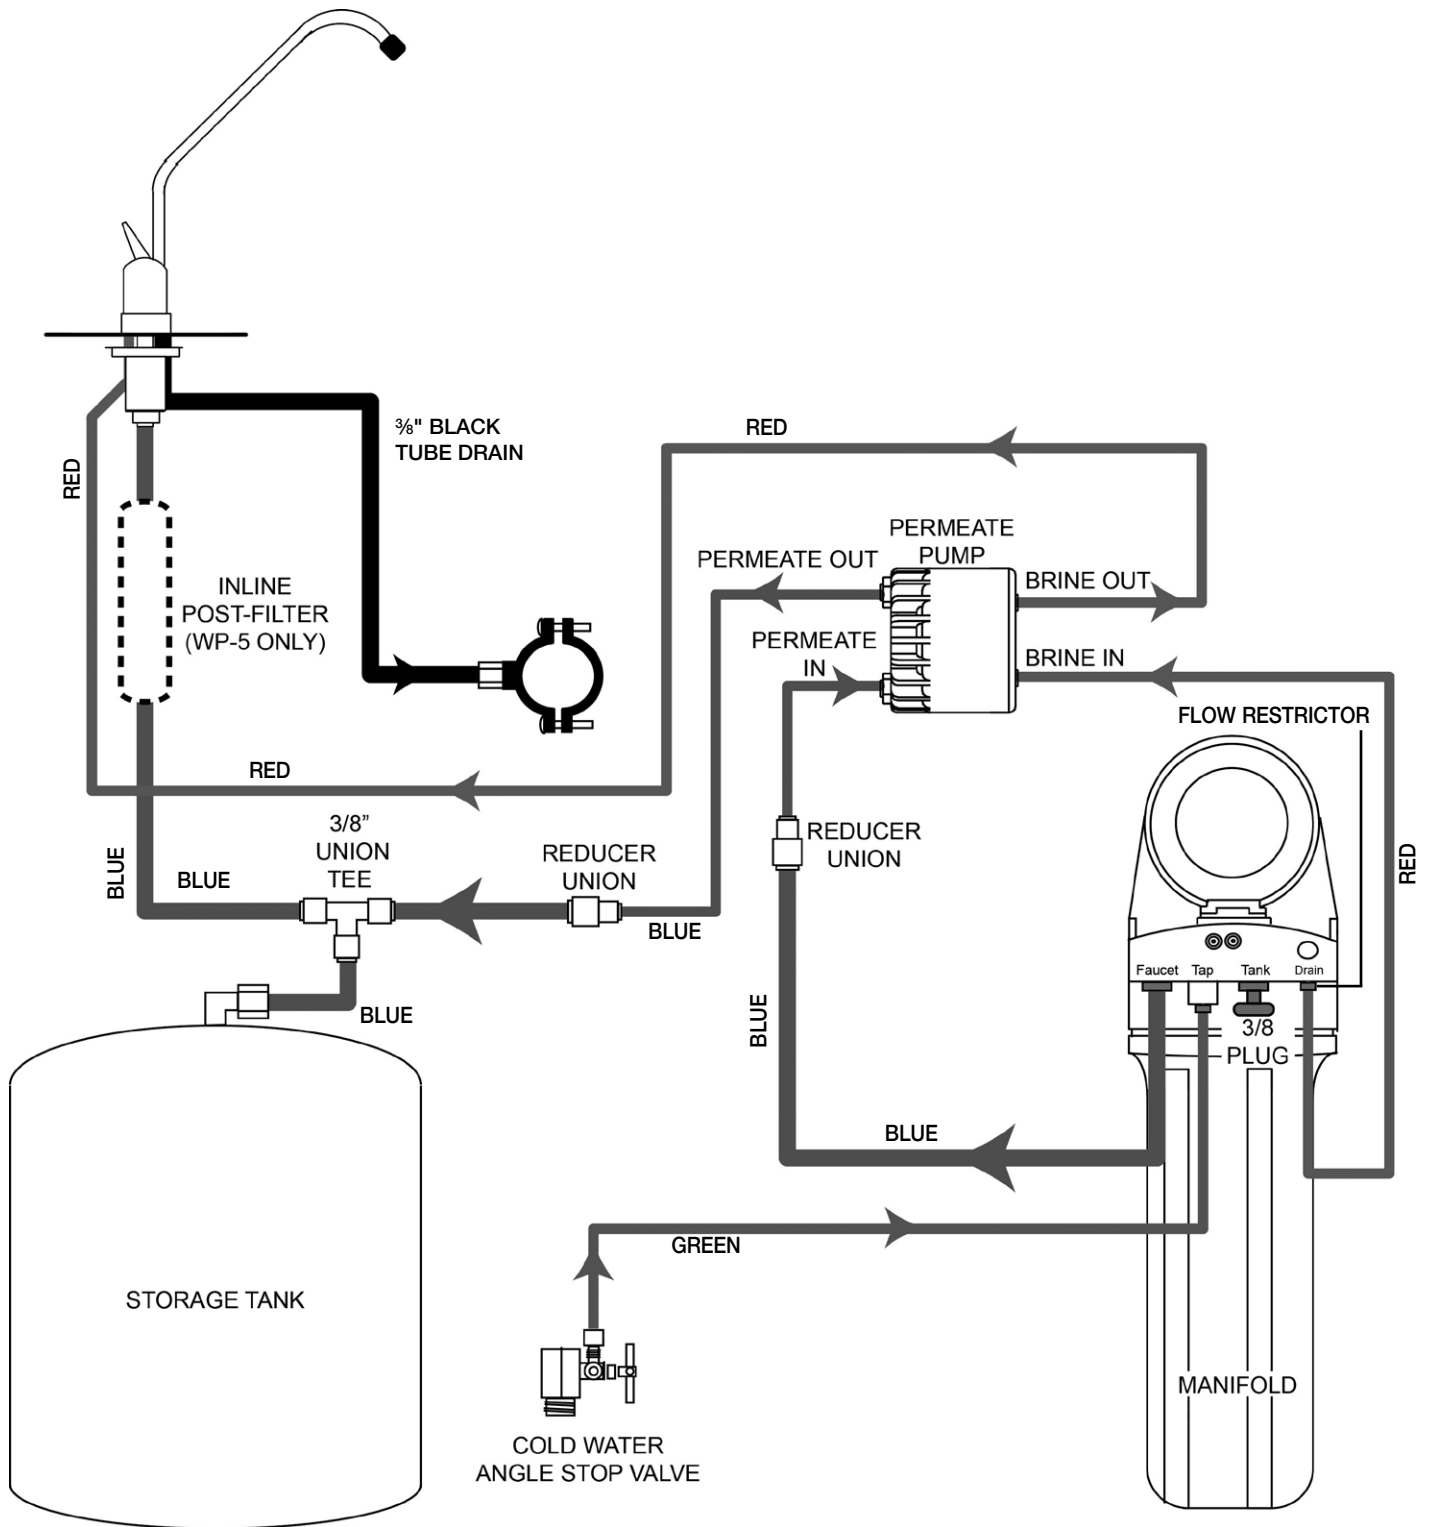

Figure 2: Manifold System after installation of Permeate Pump
9. Make sure your installation matches the diagram shown in Figure 2